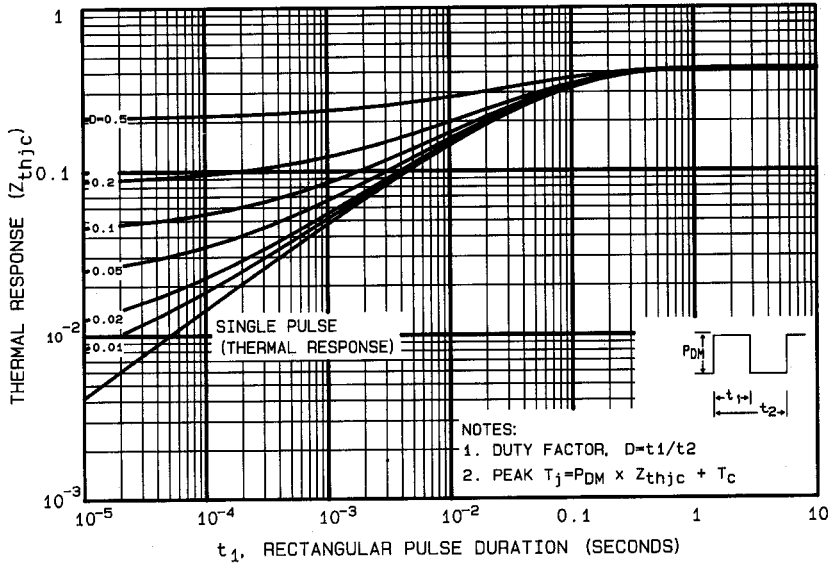

Fig. 9 — Maximum Effective Transient Thermal Impedance, Junction-to-Case Vs. Pulse Duration
① Repetitive Rating; Pulse width limited by maximum junction temperature (see figure 9) Refer to current HEXFET reliability report
② @  $V_{DD} = 50\text{V}$ , Starting  $T_J = 25^\circ\text{C}$ ,  $L \geq 2.7\text{ mH}$ ,  $R_G = 25\Omega$ , Peak  $I_L = 25\text{A}$
③  $I_{SD} \leq 25\text{A}$ ,  $dI/dt \leq 170\text{ A}/\mu\text{s}$ ,  $V_{DD} \leq BV_{DSS}$ ,  $T_J \leq 150^\circ\text{C}$ , Suggested  $R_G = 2.35\Omega$
④ Pulse width  $\leq 300\ \mu\text{s}$ ; Duty Cycle  $\leq 2\%$
⑤  $K/W = ^\circ\text{C}/W$